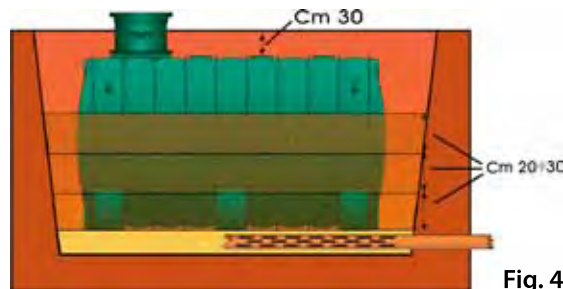

Fig. 4
7. We recommend filling the upper part of the hole, up to the beginning of the extension of the lid, if present, with non-recycled sand, completing the last burying phase with topsoil, taking care not to exceed the maximum burying depth of 30 cm, as indicated in figure 4. (~ 50 cm for the serie NER, PLS and XXLI).